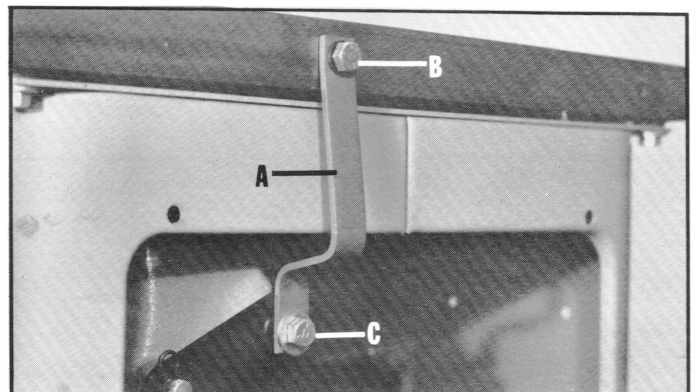

Fig. 1
The Unisaw is shipped with the motor secured in place by a strap (A) Fig. 1 to avoid damage in transit. Before putting the saw into service, this strap must be taken off the machine by removing bolts (B) and (C). Discard bolt (B) and reassemble bolt (C) back on the motor plate as shown in Fig. 1.